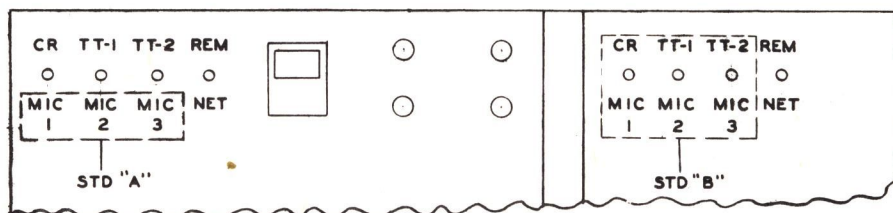

Figure 18—Typical Layout for Two-Studio Operation with Control Room and Announce Booth
4. When a "twin" installation for dual channel operation has been setup, the location of the inputs, Studio A, B or Control Room, and the controls, panels I or II, varies according to the station layout. Three typical dual channel layouts are given with complete information as to wiring changes. Refer to figures 18 and 19.